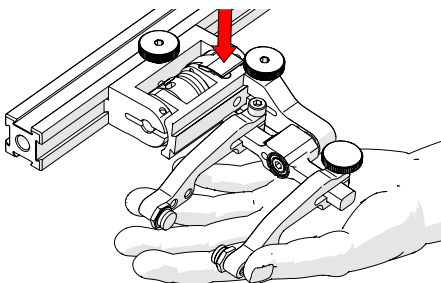

Fig. 65 - Lift slightly and press latch
2. Lift the probe holder slightly and press the latch button (Fig. 65) to release the probe holder to the full 45° degrees.